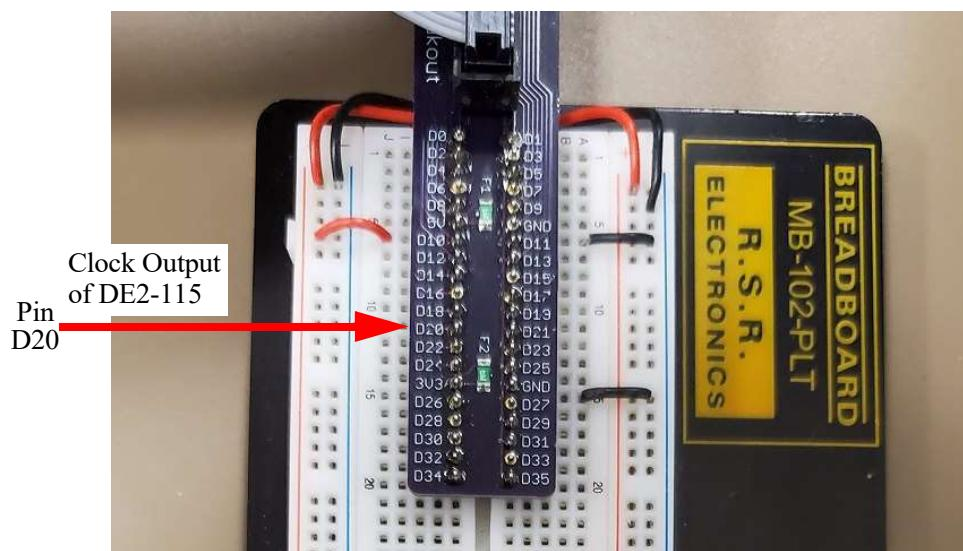

Figure 9: UAH Breakout Board
- Connect the other yellow lead of this assembly to the Pin 20 of the DE2-115 breakout board as shown below in Figure 9: